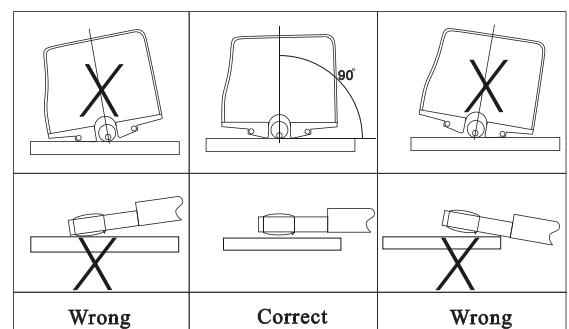
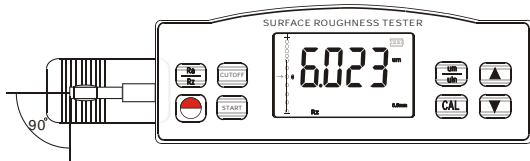

Fig. 4-1
Fig. 4-2
G. Refer to Figure 4-1 and Figure 4-2 to place the instrument correctly, stably and reliably on the surface to be measured.
H. Refer to Figure 4-2, the sliding trail of the sensor must be vertical to the direction of process line of the measured surface.